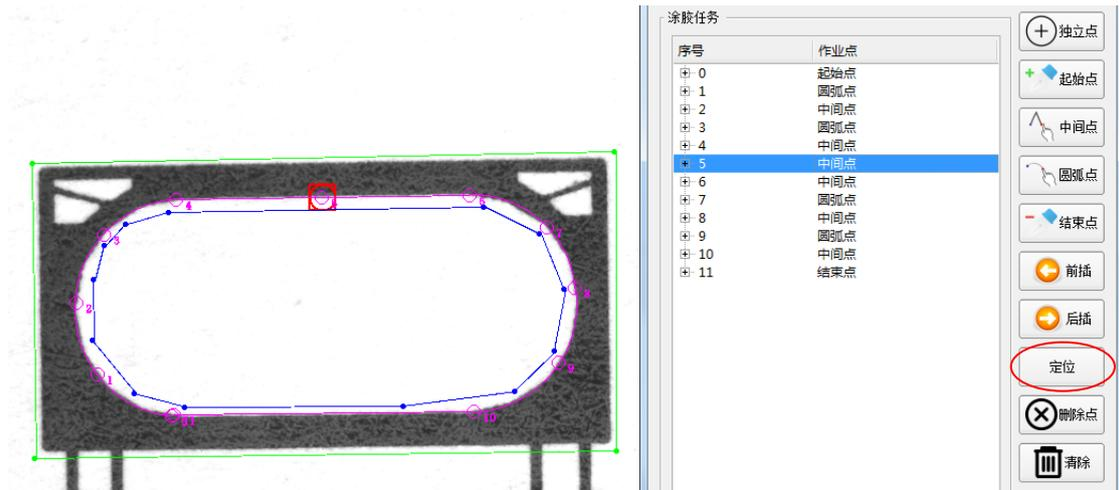

Figure 42 Key point positioning
14) Key point positioning; choose one key point in the dispensing tasks list, then click ‘positioning’ button, the platform will move the needle to the point position; ‘positioning’ button as shown in figure 42;